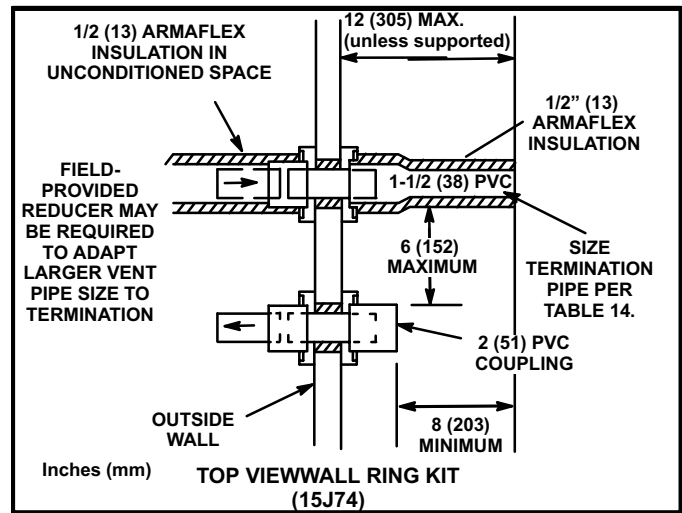

FIGURE 25
5. On field supplied terminations for side wall exits, exhaust piping should extend a maximum of 12 inches (305mm) beyond the outside wall unless supported. Intake piping should be as short as possible. See figure 25.